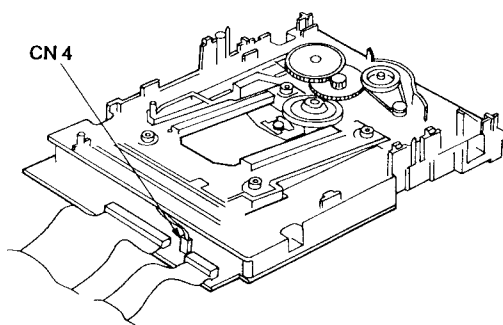

Figure 22
- (5) Disconnect the connector (CN 4) as shown in Figure 22.